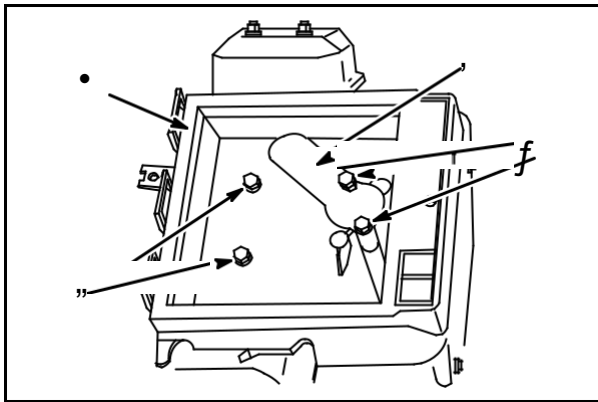

Fig. 41
Guide breather tube onto nipple on breather. Install air cleaner base (1) on carburetor and support bracket, **Fig. 41**.